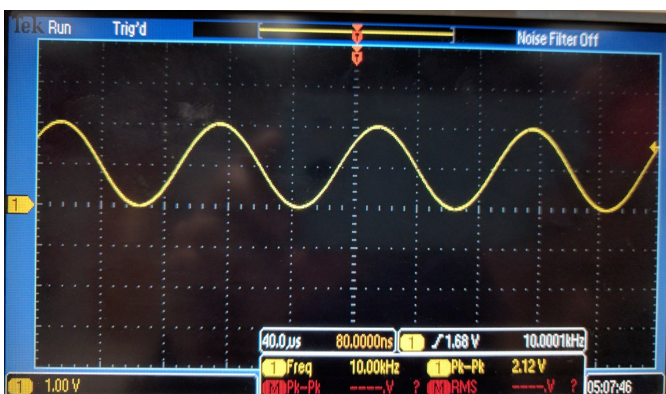

Figure 10. Oscilloscope setup.
5. When properly set up, your oscilloscope should look like Fig. 10.